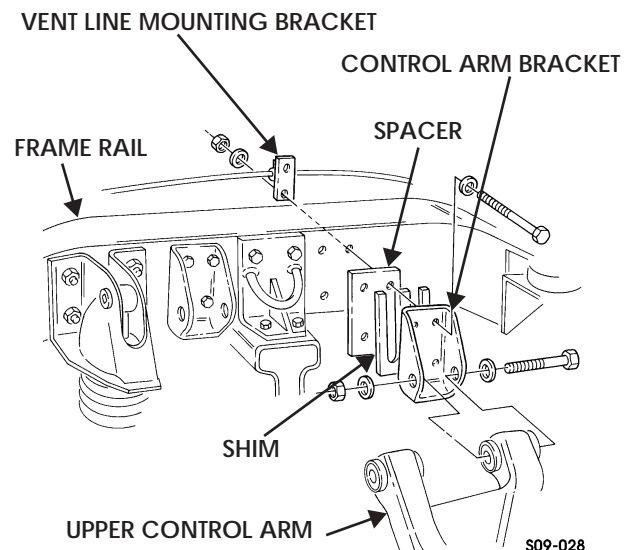

Figure 9-40: Rear Upper Control Arm Bracket
3. Remove two locknuts, washers, capscrews, washers, and upper control arm from two control arm brackets. Discard locknuts (Figure 9-40).
1. Install spacer, shim(s), if present, control arm bracket, and vent line mounting bracket on frame rail with four washers, capscrews, washers, and locknuts. Tighten locknuts to 172 lb-ft (233 N•m) (Figure 9-40).